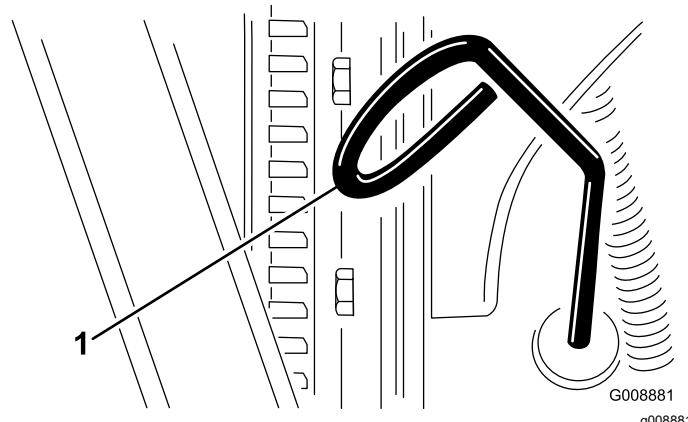

Figure 24
3. Remove the dipstick, wipe it clean, and install it (Figure 24).